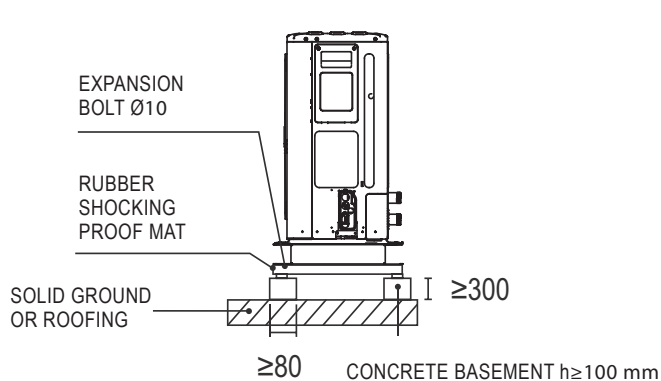

Figure 6-3
- If water does not easily drain from the unit, mount the unit on a foundation of concrete blocks, etc. (the height of the foundation should be about 100 mm.) See Fig. 6-3.